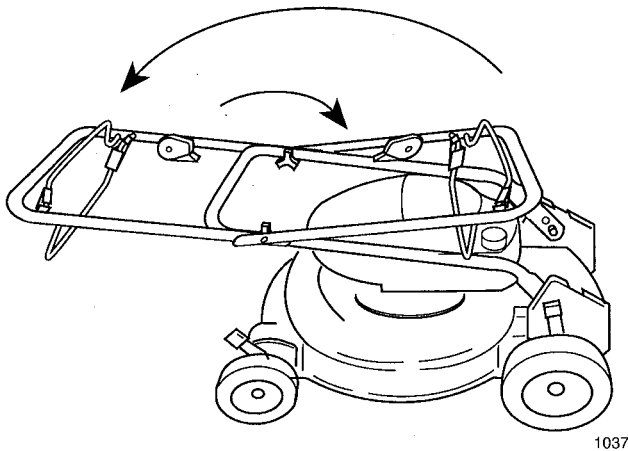

Figure 47
2. Rotate handle toward front of mower (Fig. 47).